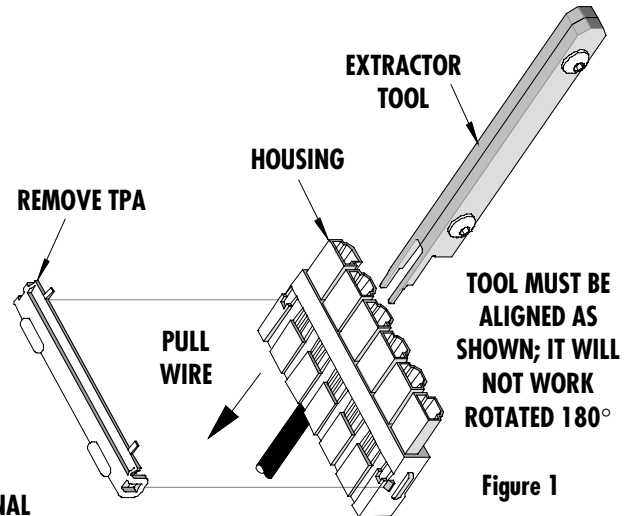

Figure 1
2. Insert the tool into the housing as shown in Figure 1.